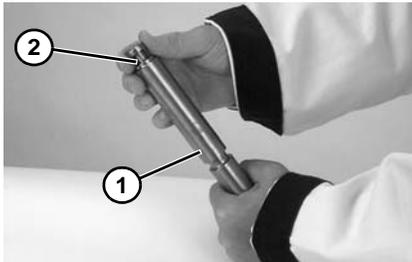

Figure 126
2. Inspect spindle (**Figure 126, item 1**). Replace if worn.
3. Slide bearing (**Figure 126, item 2**) onto spindle.